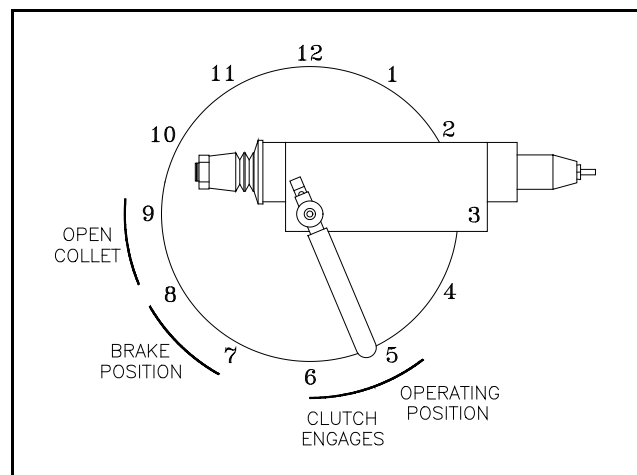

Figure 2.
- 5.2.2 Work is done with the handle in the operating position at approximately 5:00 o'clock. See Figure 2.
5.3.1 From the operating position move the handle clockwise to the open collet position (9:00 o'clock). See Figure 2.